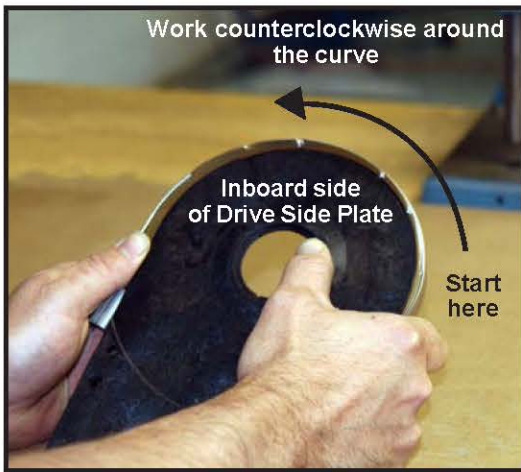
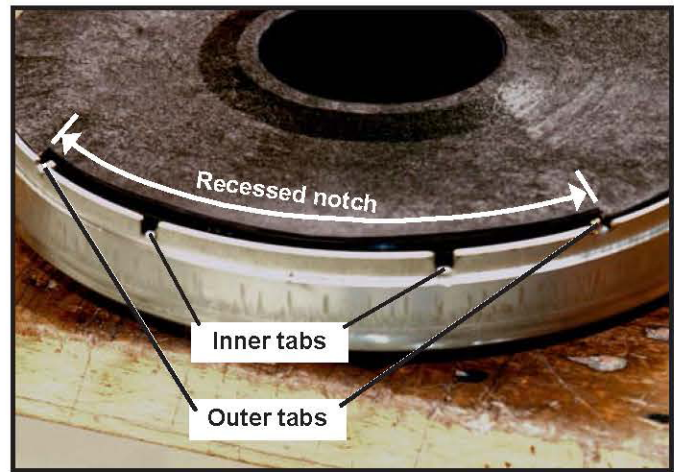

Figure 67
Figure 68
1. While holding the Drive Side Plate with the inboard side toward you (*Figure 67*), begin at right and work counterclockwise around the curve as you fit the horseshoe to the Plate (if you are left-handed, you may want to reverse this direction). Ensure that the four tabs are aligned with the recessed notch at the end of the Drive Side Plate (*Figure 68*).